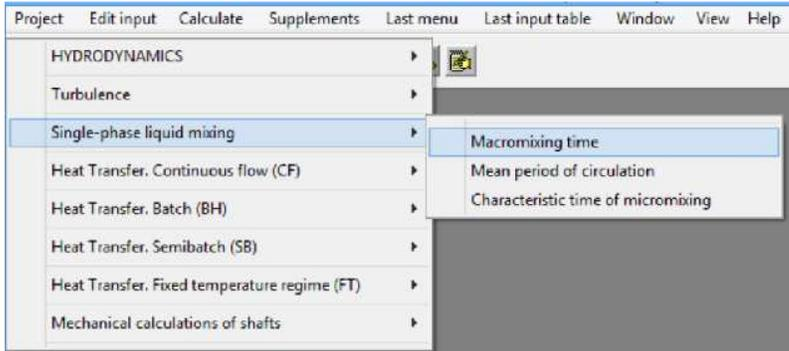

Figure 12. Menu option for calculation of the mixing time.
**2.2. Mixing time.** For calculation of mixing time we use menu option **Calculate >Single-phase mixing > Macromixing time** as shown in the Fig. 12. The calculated result arrives in the output table in the Fig.13.